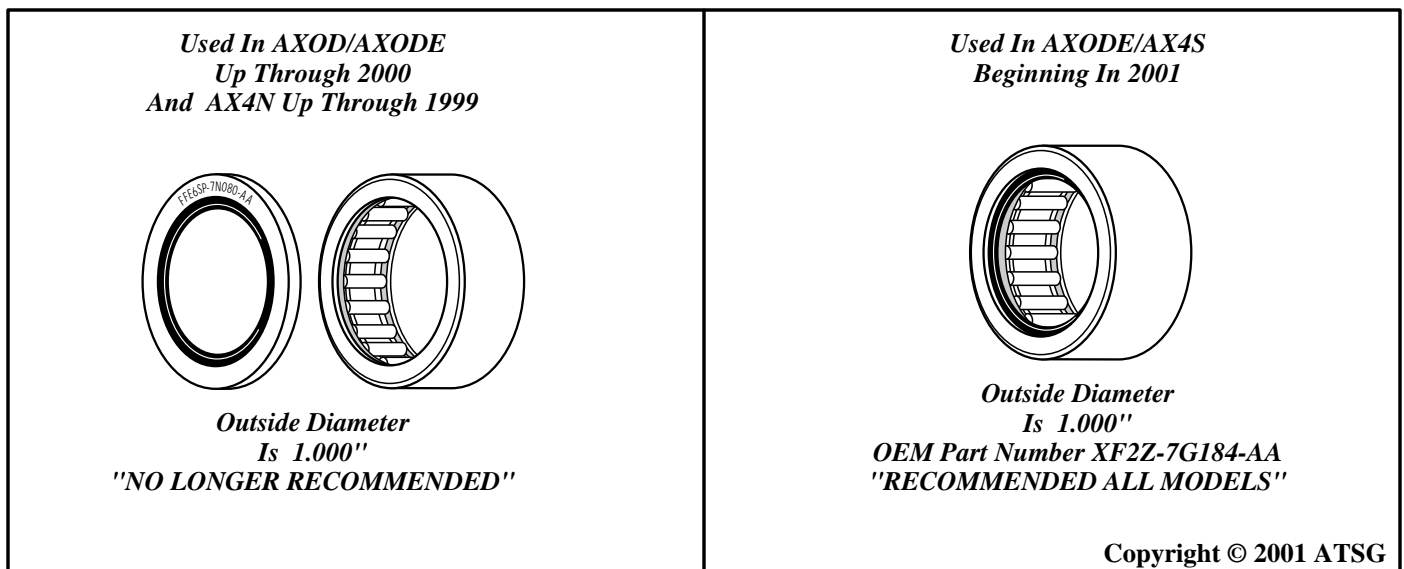

Figure 47
**CHANGE:** Beginning at the start of production for 2001 on all AX4S transaxles, Ford Motor Company introduced a new design pump bearing that includes an integrated seal, as shown in Figure 47. When this new design bearing and seal assembly went into production, it was installed with the *seal on the valve body side of the pump instead of the rotor side.*